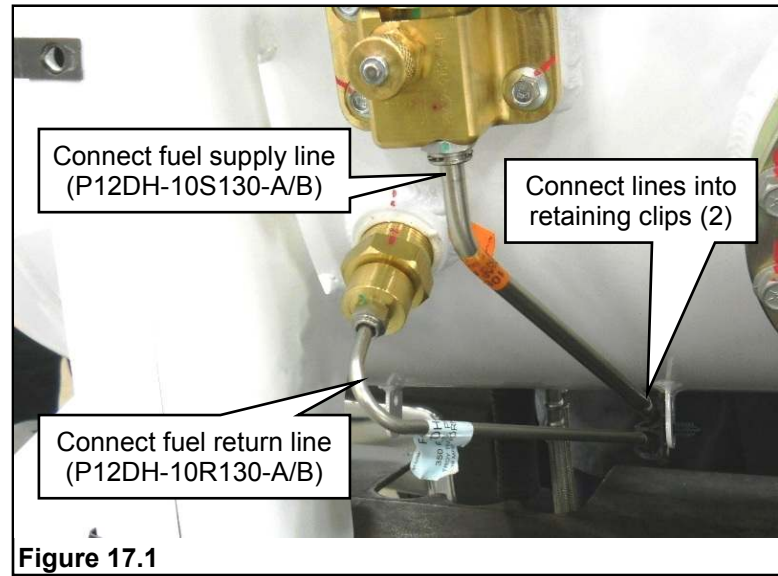

Figure 17.1
9. Position the tank fuel supply and fuel return lines under the tank to the front. Orient and connect the fuel supply line to the fuel supply circuit assembly. Orient and connect the fuel return line to the fuel return circuit assembly. Push and pull on the quick-connect fittings to make sure the lines are securely in place. **Figure 17.1.**
10. Attach the fuel supply and return lines into the two double snail retaining clips under the tank. **Figure 17.1.**